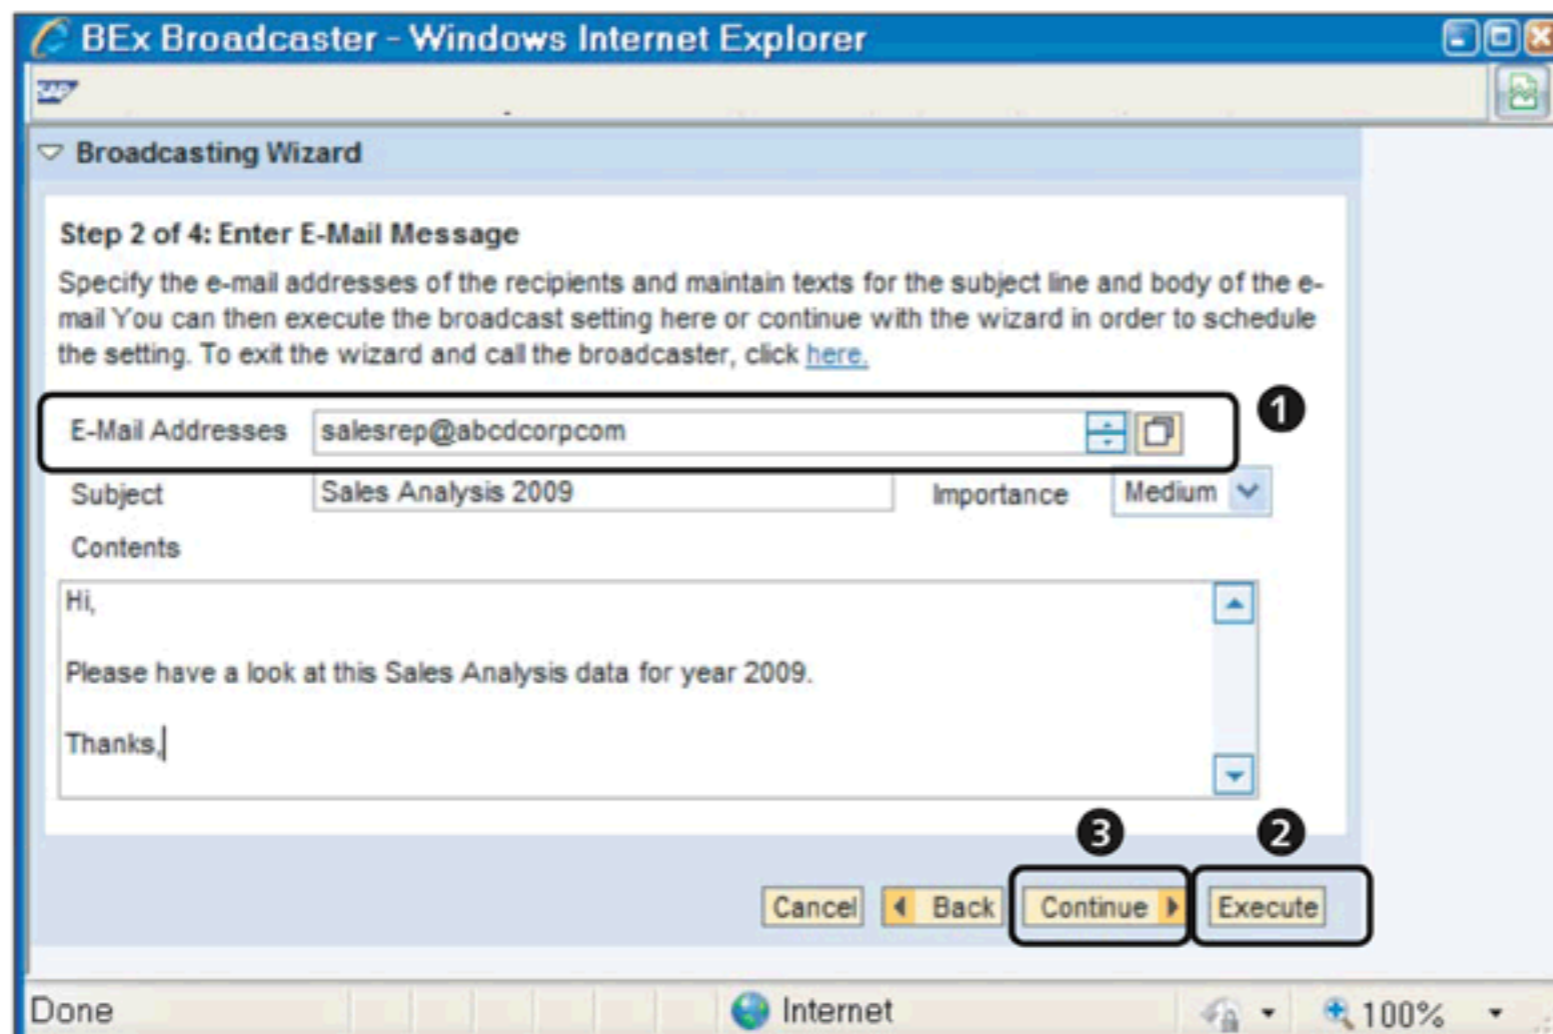

Figure 10.63 BEx Broadcaster: Maintain Message Settings
On the next screen, maintain the details of the broadcasting settings (Figure 10.63), which depend on the output format selected earlier. Include the email addresses of the intended recipients of this data (❶), and create your own message, which will be sent to the users along with the information.